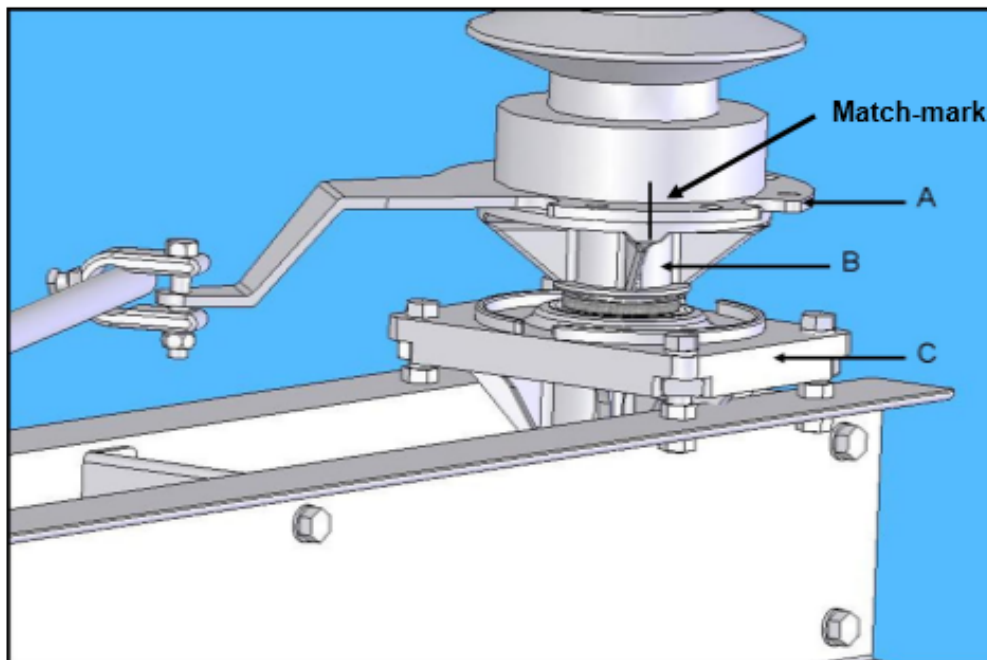

Figure 2: Match-Marked Components (72.5kV bearing)
3. Before disassembling the live parts from the switch base you must match mark each of the parts indicated to ensure correct re-assembly. Match-mark A to B and B to C as shown in **Figure 2**.